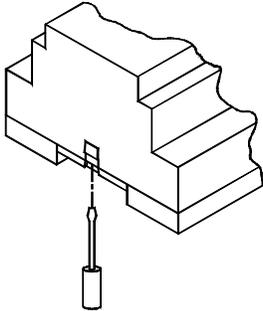
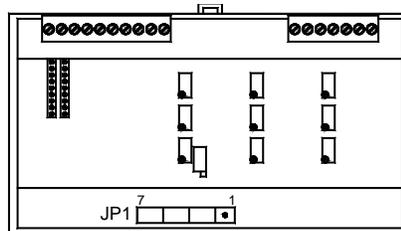

Figure 2
Figure 3
Remove the enclosure top by inserting a flat blade screwdriver under the retaining tabs in the base (See figure 2). Set the JP1 current range selection jumpers to the range appropriate for the clutch / brake connected to the DFC-90 (See figure 3 for current range settings). The factory setting is 1/8 amp range. Replace the enclosure top.
The only maintenance that may be required on the DFC-90 is fuse replacement. Replacement of the fuse(2) requires first removing ac power, then opening the enclosure. The enclosure must be re-installed to maintain the IP rating. The enclosure may be opened by inserting a flat blade screwdriver under the retaining tabs in the base (See figure 2).